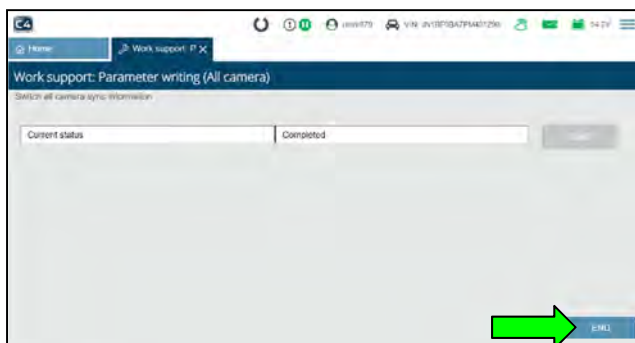

Figure 9
HINT: It may take up to 5 minutes before the screen in Figure 9 on page 7 to display once the green Play icon is selected.
- If the **Parameter writing** is successful (Figure 9), select **END** and then continue to step 13.